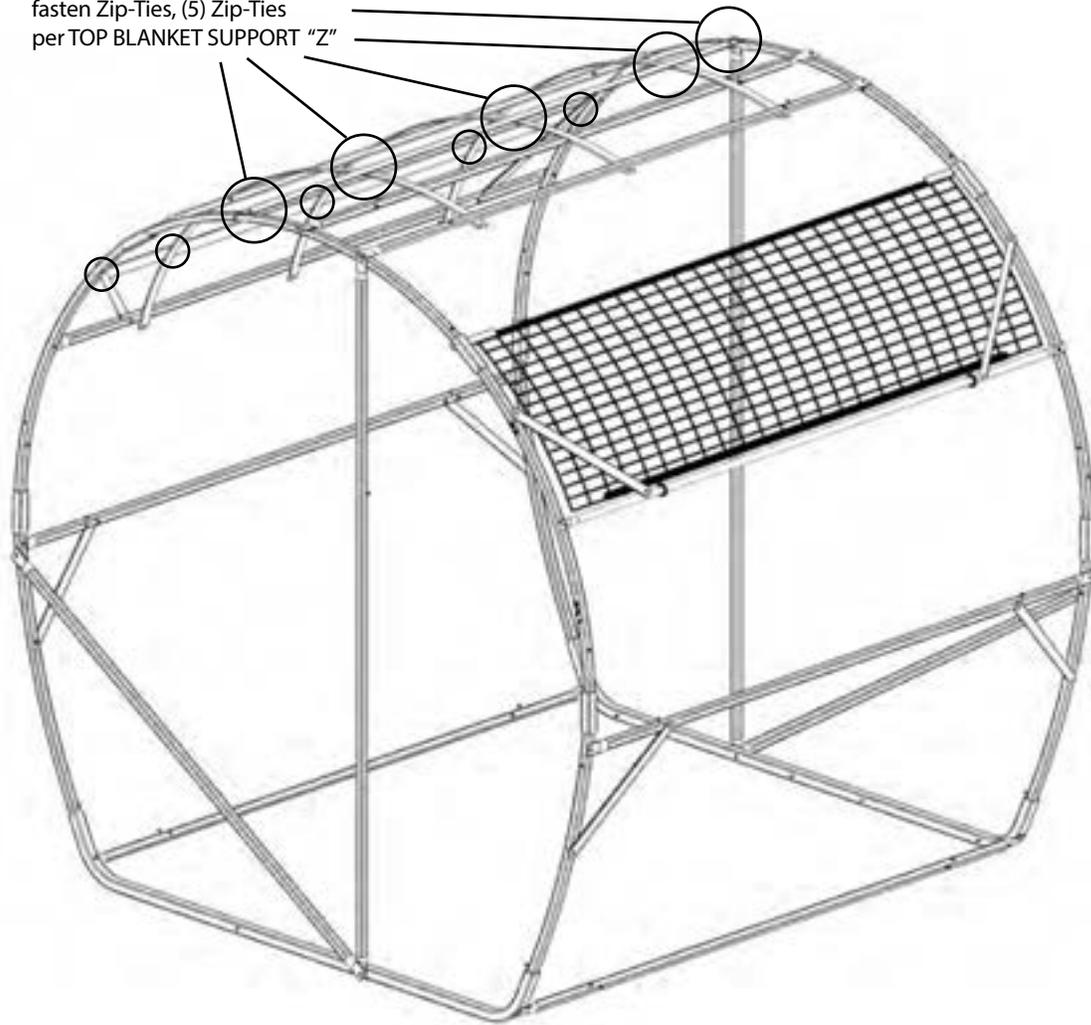

Figure 25.1
STEP 17: Locate the (2) TOP BLANKET SUPPORTS "Z". Using (10) total Zip-Ties, align and fasten the (2) TOP BLANKET SUPPORTS "Z" along the top of the bale blind frame. Attach each end to the corresponding location along the end hoop frames with Zip-Ties, then also where the (2) TOP BLANKET SUPPORTS "Z" meet the (3) TOP CROSS BRACES "L", resulting in the frame illustrated in Figure 25.1.